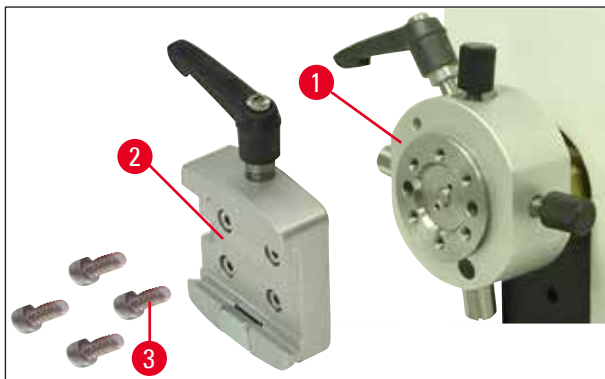

Fig. 9
2. Then remove the dovetail receptacle (→ Fig. 9-2) from the specimen holder fixture (→ Fig. 9). To do so, loosen and unscrew the four screws (→ Fig. 9-3) using an Allen key with handle, No. 3 (→ Fig. 10-1).